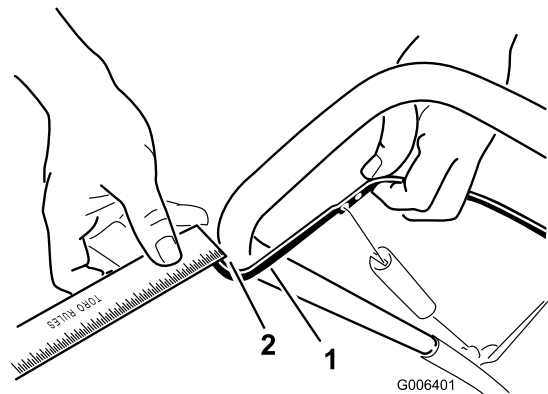

Figure 15
Move the control bar back toward the handle to remove the slack in the control cable (Figure 15).
Note: Ensure that a 2 to 3 mm (1/16 to 1/8 inch) gap exists between the control bar and the handle (Figure 15).
- Move the Z-fitting to a higher or lower hole on the adjuster link as needed to obtain the 2 to 3 mm (1/16 to 1/8 inch) gap between the control bar and the handle (Figure 15).